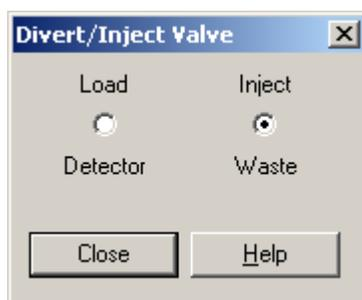

Figure 47. Divert/Inject Valve dialog box
9. Click **Divert/Inject Valve** to open the Divert/Inject Valve dialog box. See Figure 47.